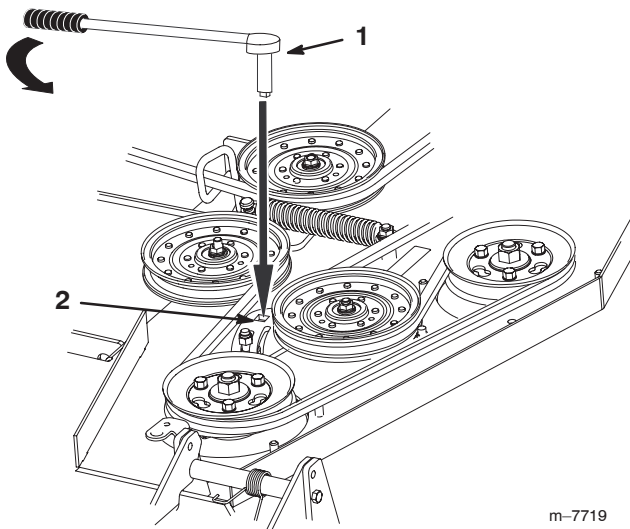

Figure 57
- Insert a ratchet with a short extension or a breaker bar into the square hole in the fixed idler arm (Fig. 57).